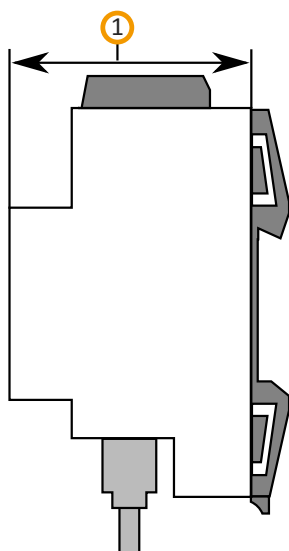

Figure 10: Device depth
Pay attention to the device depth (see figure 10, item 1): DRA Plus, 74 mm.